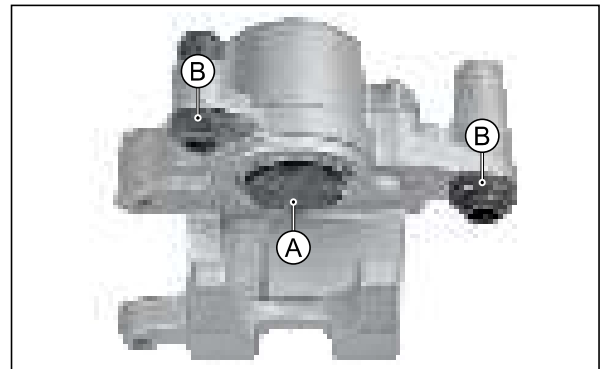

Fig. 6.124
- Carefully pull out the cap piston (A) and boots (B) from the caliper assembly housing. (Fig. 6.124)